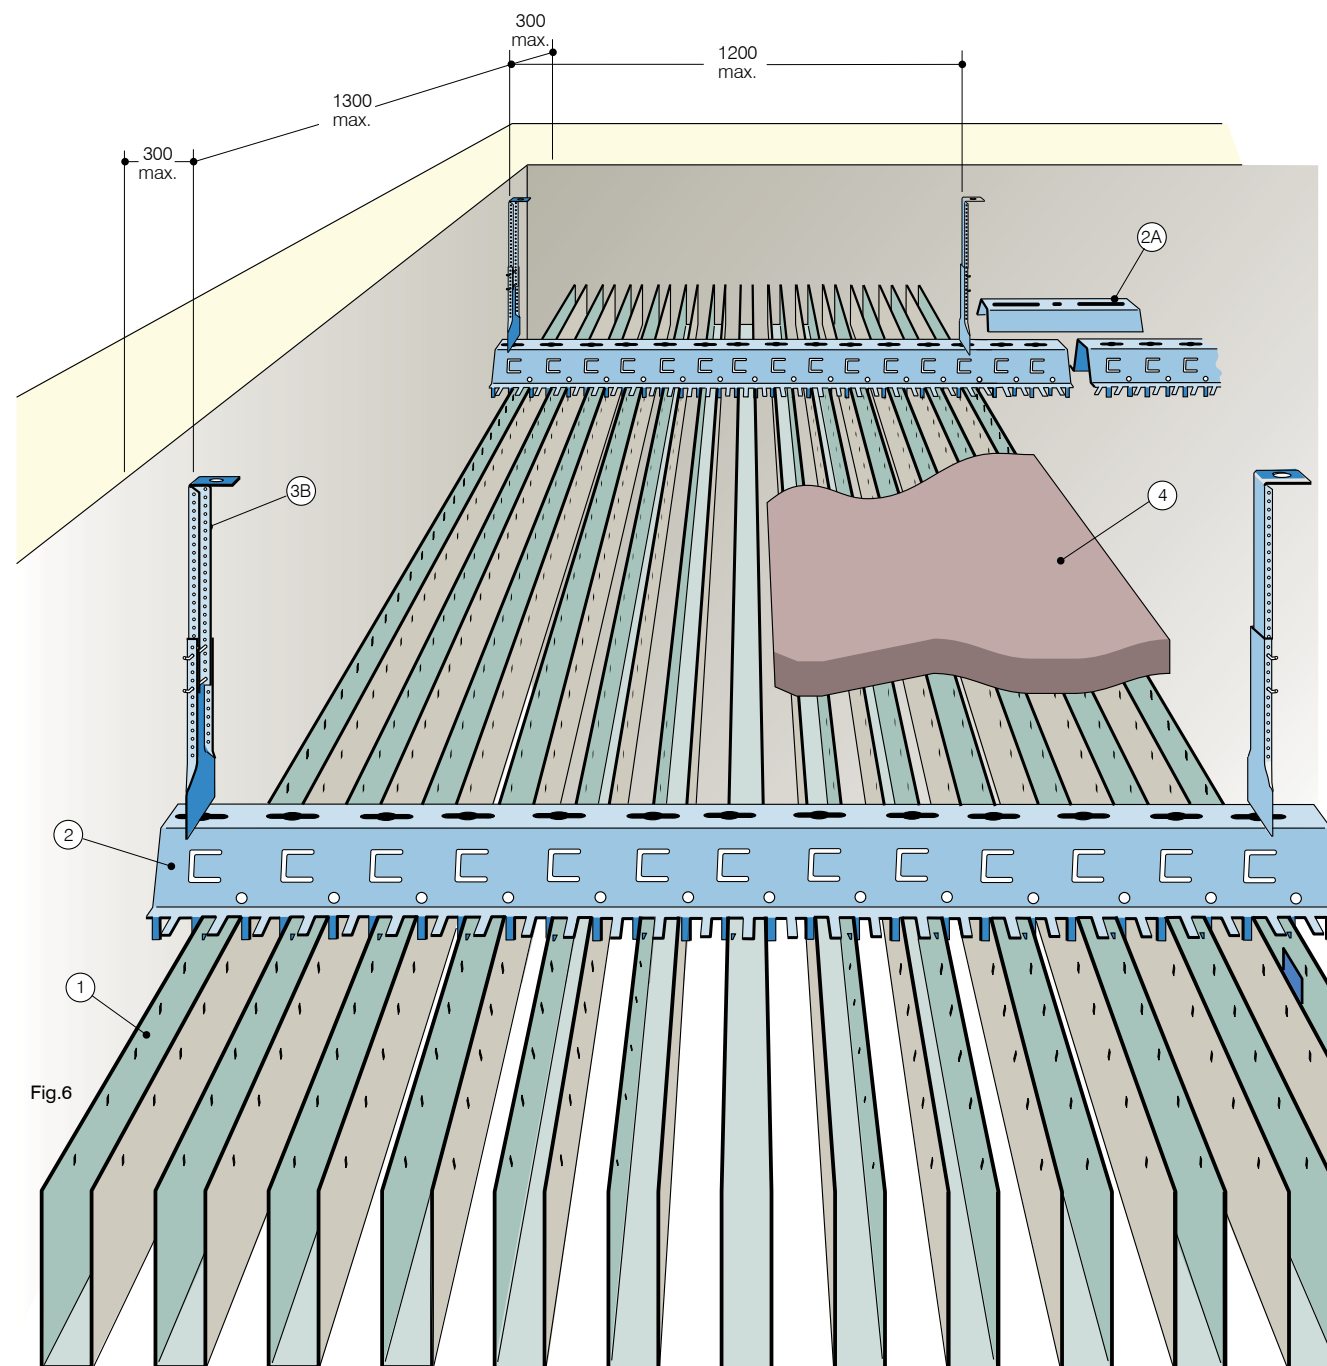

Fig.6
Suspended from the structural soffit by adjustable hangers (3B) [Fig. 6] or (3A) (see rear page), Omega carriers (2) [Figs. 2 & 3] contain preformed tongues in their base, spaced according to LINUS profile
Special finishes are subject to minimum order quantity. Ceilings overlaid with inert fibrous insulation material (4) [Fig. 6] act as sound absorbing membranes.